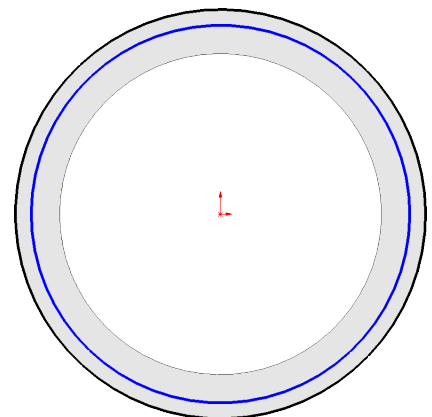

Fig. 10
Step 5. Click **Circle**  (S) on the Sketch toolbar.
Step 6. Sketch circle at Origin , **Fig. 10**.